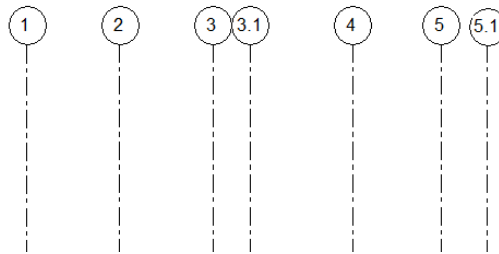

Figure 3-50 The display of vertical grids after they are renumbered
15. Repeat steps 11 and 12 to rename the grid lines marked **6** and **7** to **5** and **5.1**, respectively, as shown in Figure 3-50.